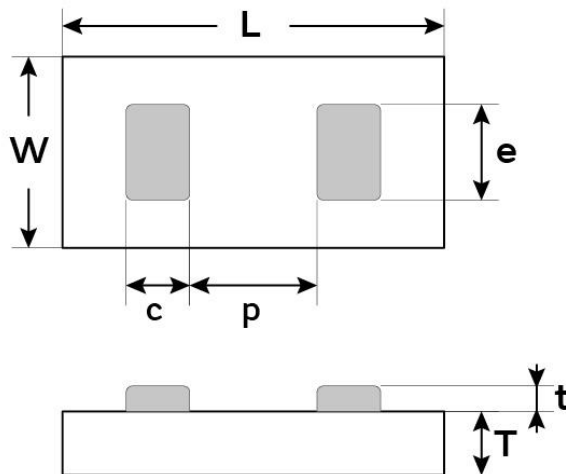

Figure 8 - Package outline drawing
- (1) Other film frame carrier are possible on request
- (2) With N = ENIG : 0.1µm Au / 5µm Ni & with S = SAC305 type6 re-bumping
- (3) missing capacitors can reach 0.5%
- (4) refer to Figure 8